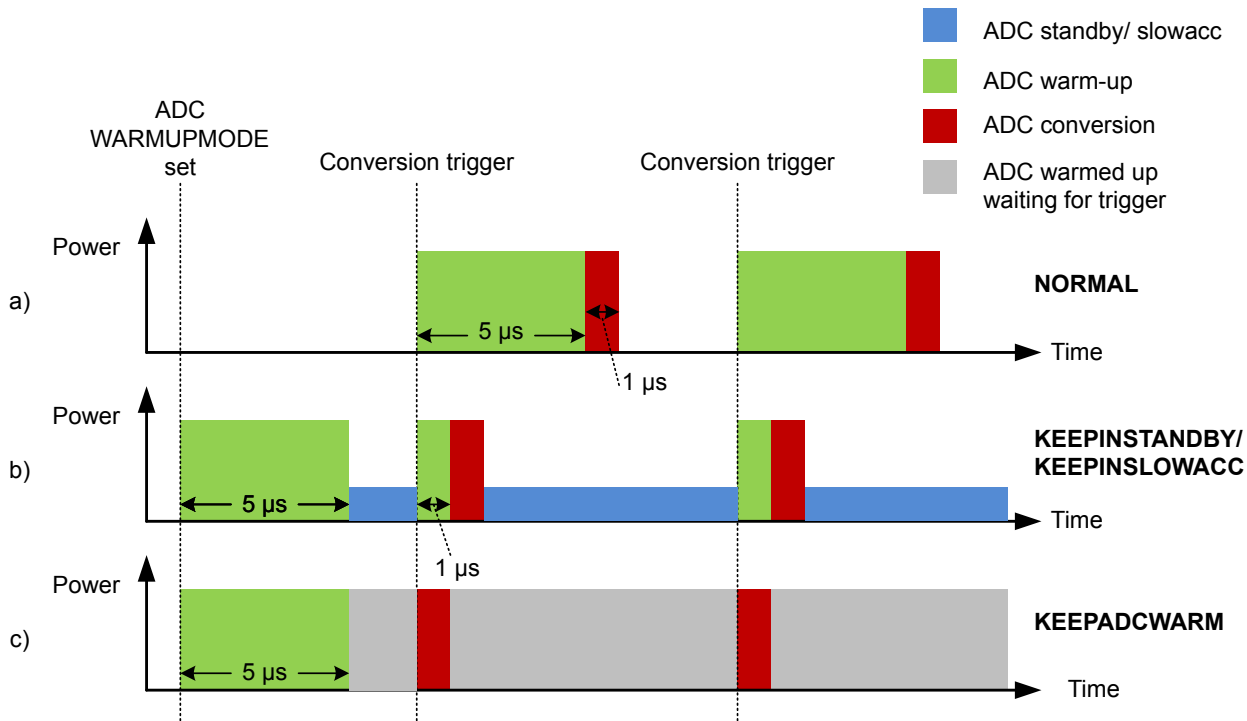

Figure 26.4. ADC Analog Power Consumption With Different WARMUPMODE Settings
Normally, the ADC will be warmed up only when samples are requested and is shut off when there are no more samples waiting. However, if lower latency is needed, configuring the WARMUPMODE field in ADCn_CTRL allows the ADC and/or reference to stay warm between samples, reducing the warm-up time or eliminating it altogether. Figure 26.4 ADC Analog Power Consumption With Different WARMUPMODE Settings on page 851 shows the effects on analog power consumption in scenarios using different WARMUPMODE settings.
- **NORMAL:** This is the lowest power option for general-purpose use and low sampling rates (below 35 ksps). The ADC and references are shut off when there are no samples waiting. The ADC does not consume any power when it is shut down. A 5 μ s warmup time will be initiated prior to every conversion. Figure a in Figure 26.4 ADC Analog Power Consumption With Different WARMUPMODE Settings on page 851 shows this mode.
- **KEEPINSTANDBY:** This mode is suitable for infrequent sampling of lower impedance inputs, and is the lowest power option for sampling rates between about 35 and 125 ksps. It may also be useful for lower sampling rates where latency is important. The reference selected for scan mode is kept warm, but the ADC is powered down. The ADC will initiate a 1 μ s warmup period before a conversion begins. Because the reference is kept warm, the ADC will consume a small amount of standby current when it is not converting. Figure b in Figure 26.4 ADC Analog Power Consumption With Different WARMUPMODE Settings on page 851 shows this mode.
- **KEEPADCWARM:** This mode provides the lowest latency and allows for maximum sampling rates. The ADC and reference circuitry remain powered on even when conversions are not in progress. Figure c in Figure 26.4 ADC Analog Power Consumption With Different WARMUPMODE Settings on page 851 shows this mode. This mode consumes the most power, but as soon as a trigger event occurs, the acquisition and conversion begin with no warm-up time. Note that if KEEPADCWARM mode is set and HFXO is selected as the ADC clock source, the HFXO will remain on in EM2.